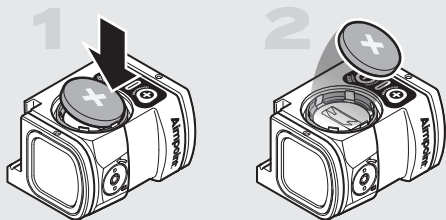

Fig. 2 Remove battery
- Unscrew and remove the battery cap (4) using the flat side of the Aimpoint tool (10B) .
- If replacing battery, remove depleted battery from the battery compartment by carefully pressing down on an edge as shown in Fig 2.